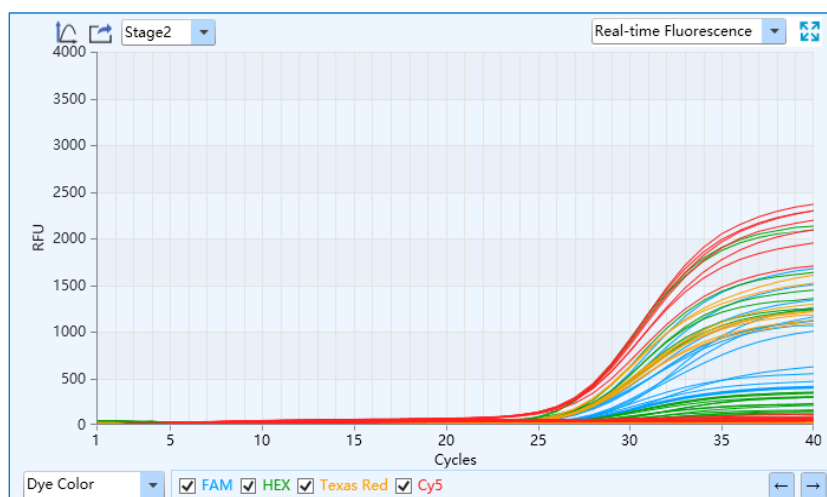

Figure D-7.1 Run Monitoring interface - Real-time Fluorescence function module
1. **Real-time Fluorescence:** displays the diagram of real-time fluorescence intensity against cycle number of the current running experiment, as shown in figure D-7.1.